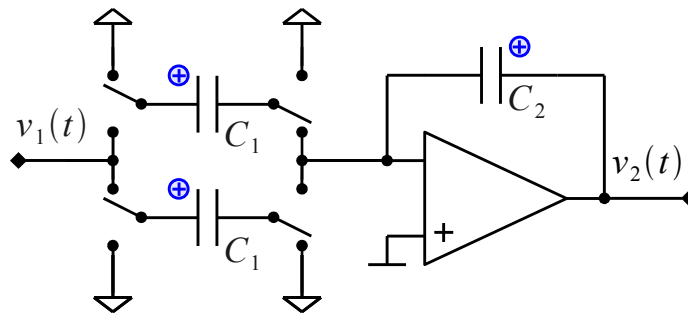

Figure 8.11.1: SC circuit.
- Derive the transfer function for the SC circuit in Figure 8.11.1.